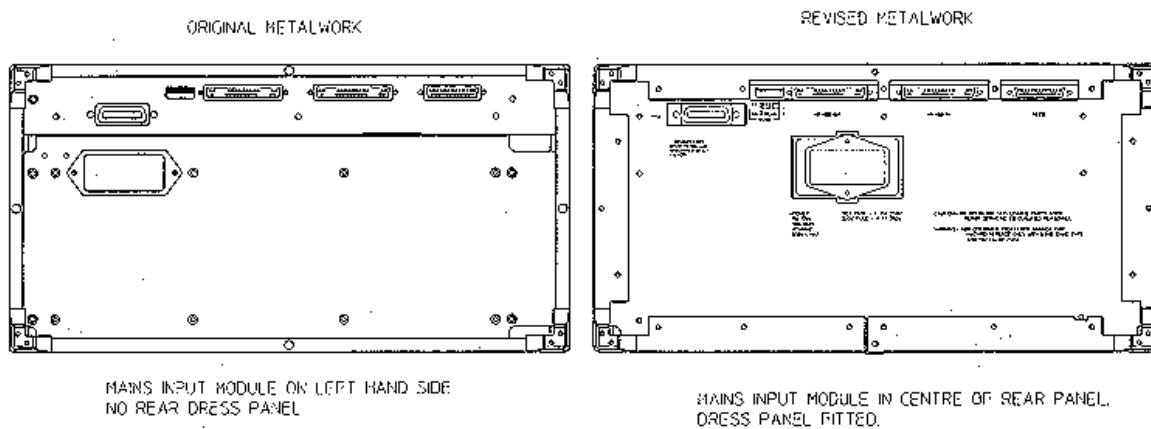

Figure 1
2. From FIG 1, identify which particular version of rear panel metalwork is fitted to the customer's unit and proceed to the ORIGINAL METALWORK or REVISED METALWORK section of this service note as appropriate.